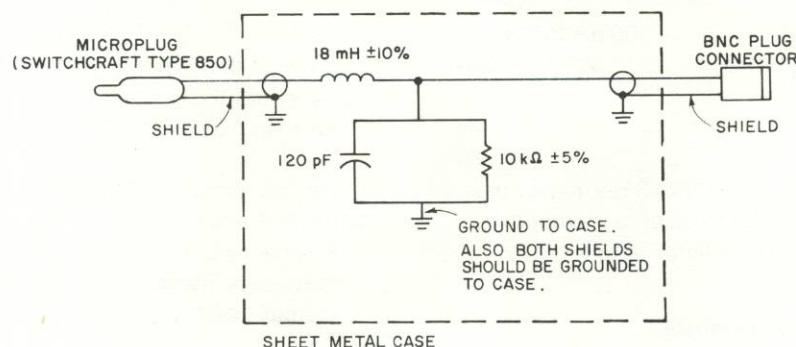

Figure 4-4. 100-kHz low-pass filter.
The following procedure requires the fabrication of the filter circuit shown in Figure 4-4.
- b. Connect the 100-kHz low-pass filter shown in Figure 4-4 between SIGNAL OUT AC jack and the input of the 334-A Distortion Analyzer, via the GR 274-QBJ Adaptor.